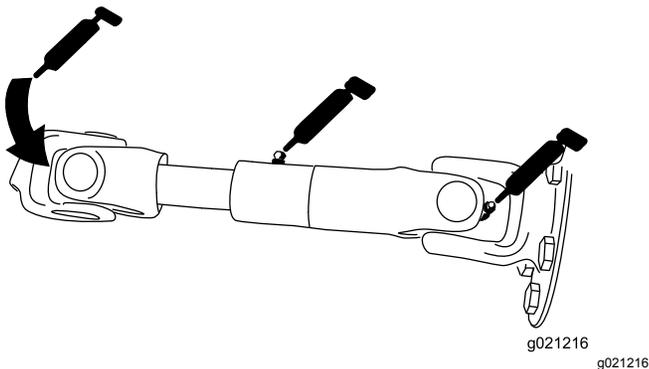

Figure 64
- Pump driveshaft (3) (Figure 64)